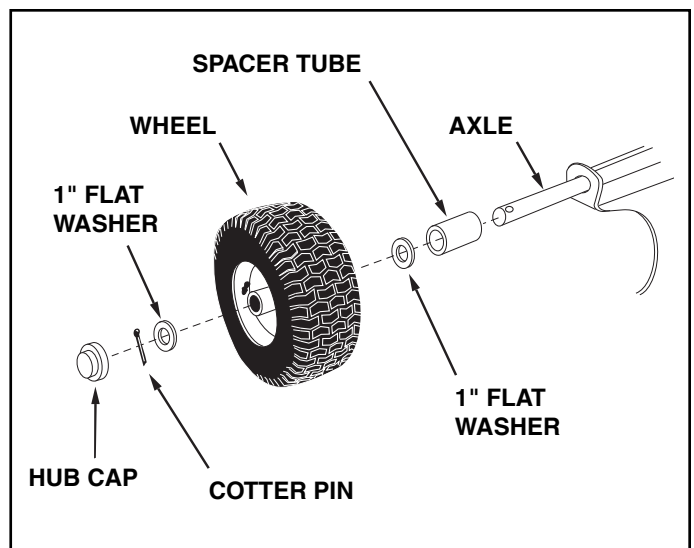

FIGURE 7
11. Assemble a spacer tube, a 1" flat washer, a wheel (valve stem facing out), and another 1" flat washer onto the axle as shown in figure 7. Secure the wheel with a cotter pin, spreading the ends so that a hub cap can fit over the pin. Assemble the hub cap by pressing it onto the flat washer. Repeat on other end of axle.